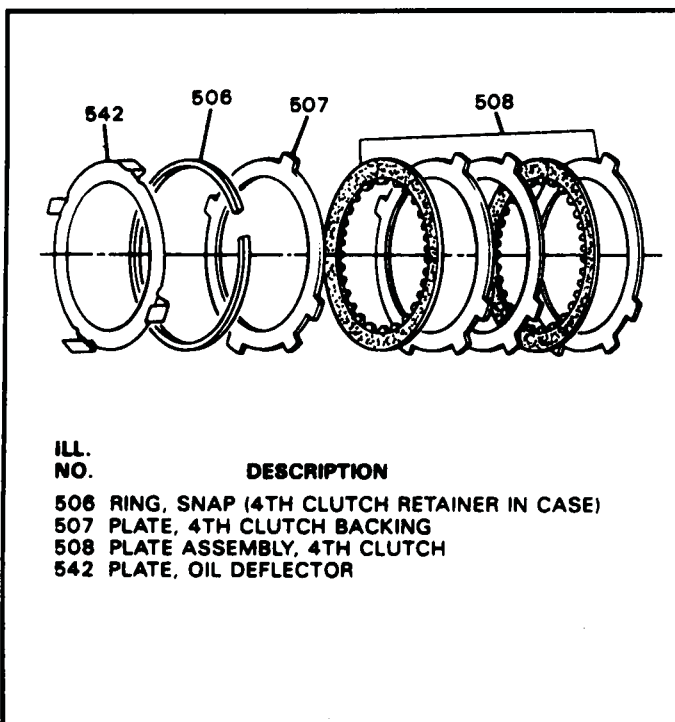

Figure 124
36. Install the 4th clutch plates as follows, referring to Figure 124 as a guide.
37. Install the 4th clutch backing plate (507) into the case, as shown in Figure 124.
38. Install the backing plate snap ring (506) in the case groove, as shown in Figure 124.
39. Install the oil deflector plate on top of the snap ring, with the tangs facing up (See Figure 124).